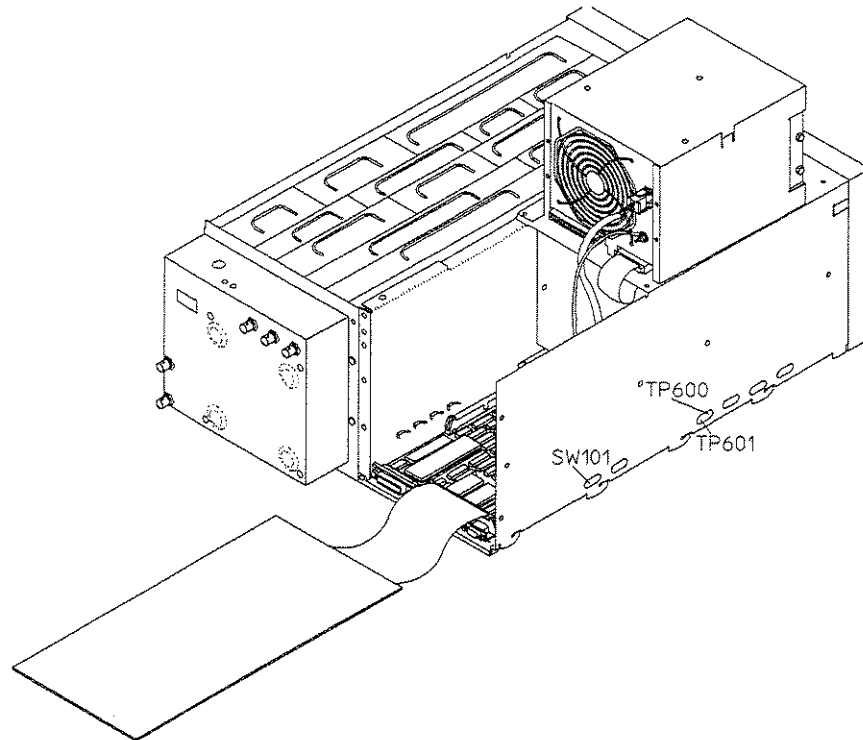

Figure 5-11. IIC Bus Test Locations
4. Set the power switch to ON (I). Press SW101 (reset switch) while monitoring TP600 (SCL) and the power-on test LEDs (see figure 5-11). If the CPU assembly is operating correctly, the TTL logic level at TP600 toggles once when 00 is displayed and again when A1 is displayed.
7. Set the power switch to ON (I). Repeat steps 3, 4, and 5 to check that the front panel is not causing the failure.